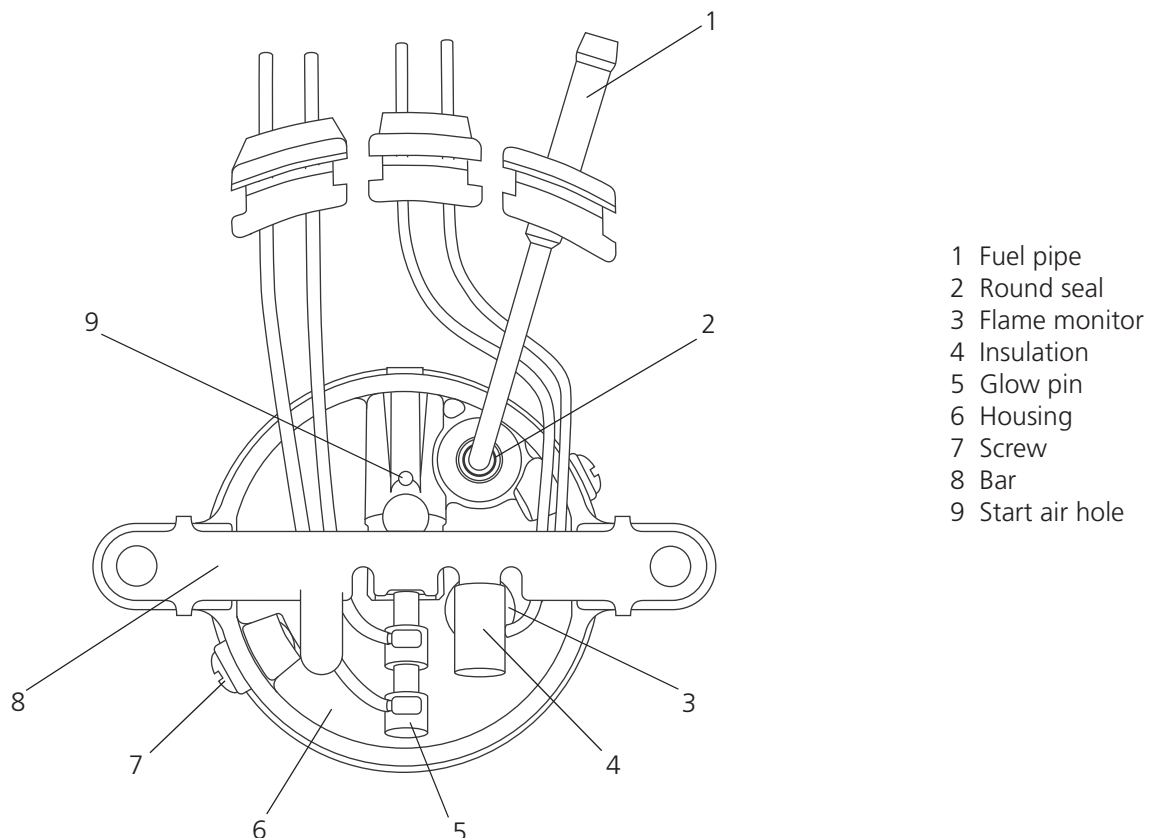

Figure 10: Visual check, burner back wall
- The start air hole (item 9, Fig. 10) must be clear otherwise no start will occur.
- The cables of the glow pin and flame monitor must be routed as shown in Fig. 10.
- The round sealing ring (item 2, Fig. 10) must evenly surround the fuel pipe and must not leak.
- The insulation (item 4, Fig. 10) must not be missing.